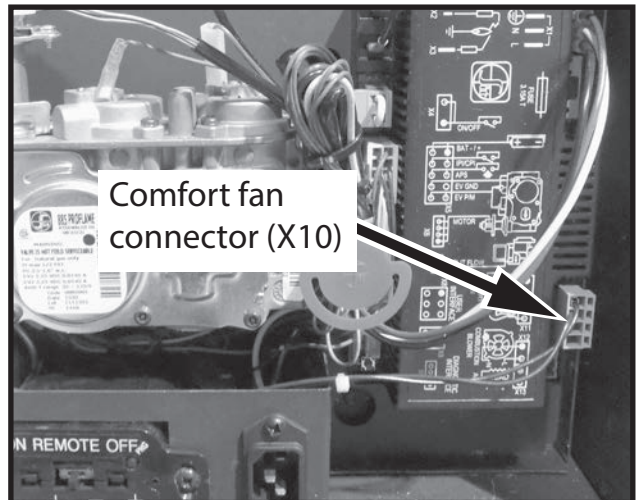

Figure 63: Comfort fan electrical connector.
14. Remove connector X10 (comfort fan) from the control module (Figure 63).